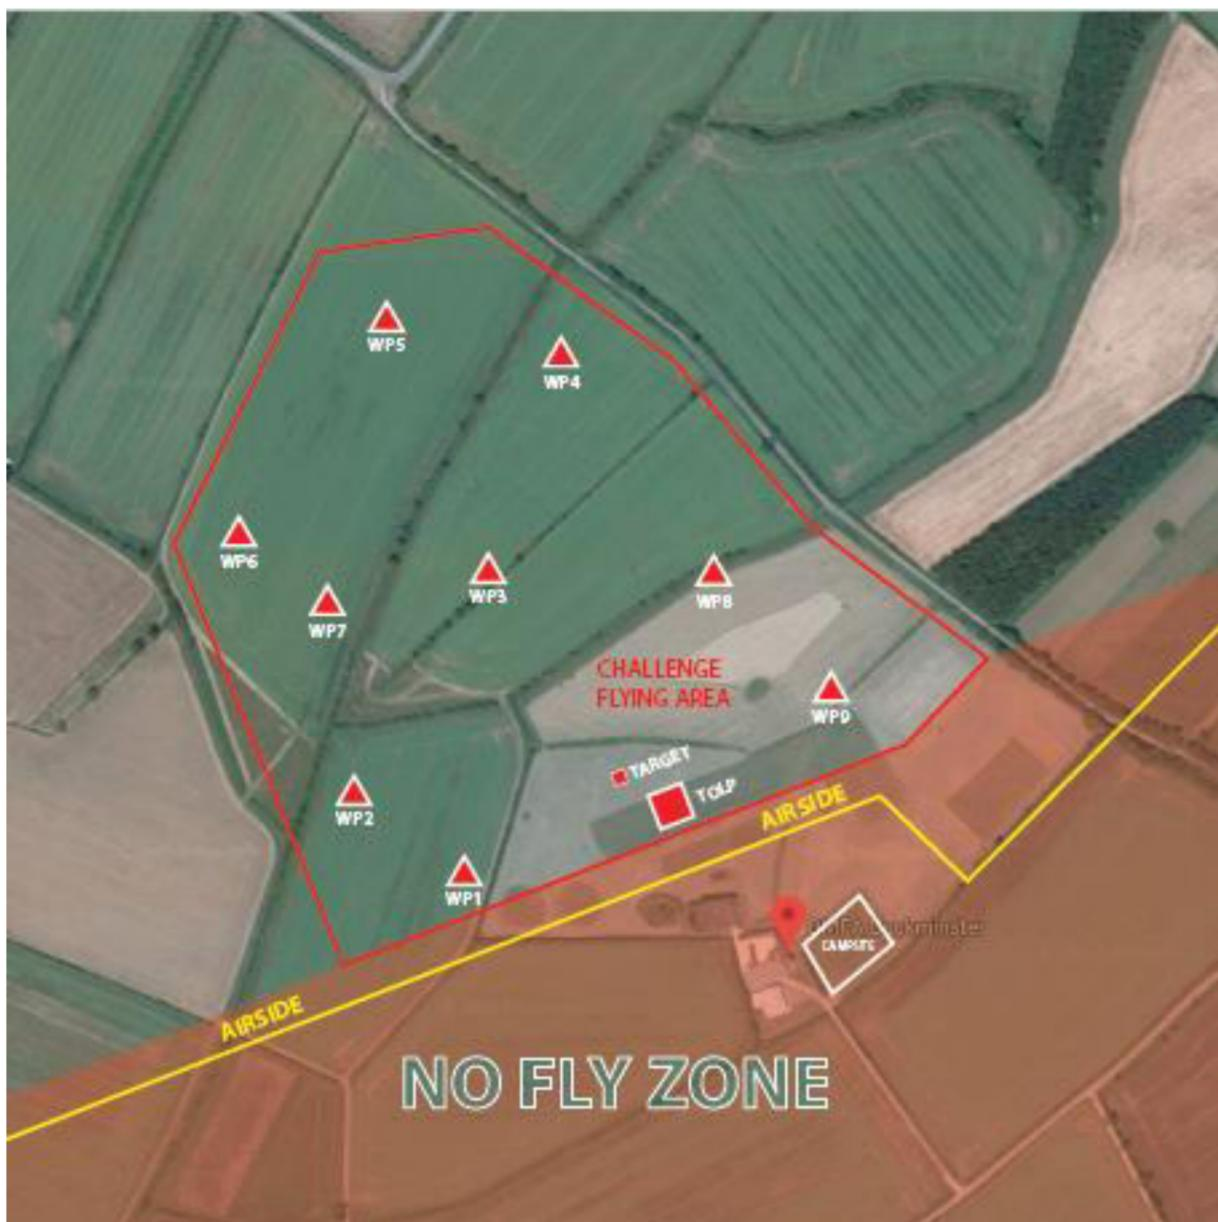

Figure A3: BMFA Airfield showing example Waypoints and Drop Zone
Figure A3 depicts the general layout of the airfield with example Waypoints (WP) and the Drop Zone (DZ). The actual position of WPs and the DZ will be provided to teams at the start of the Demonstration Event.
Figure A3 shows an example of the flying area and how WPs may be positioned around the airfield flying area; **Note that this is illustrative only**, and details of the actual Geo-fence boundary to the flying area and WP locations will be provided to the teams at the start of the demonstration event.
Figure A3 below shows the general layout of BMFA Airfield, and an illustration of how the flying area and Waypoints might typically be configured. The **actual** disposition of Waypoints and the Geo-fence flying area boundary will be provided to teams at the start of the flying demonstration event.